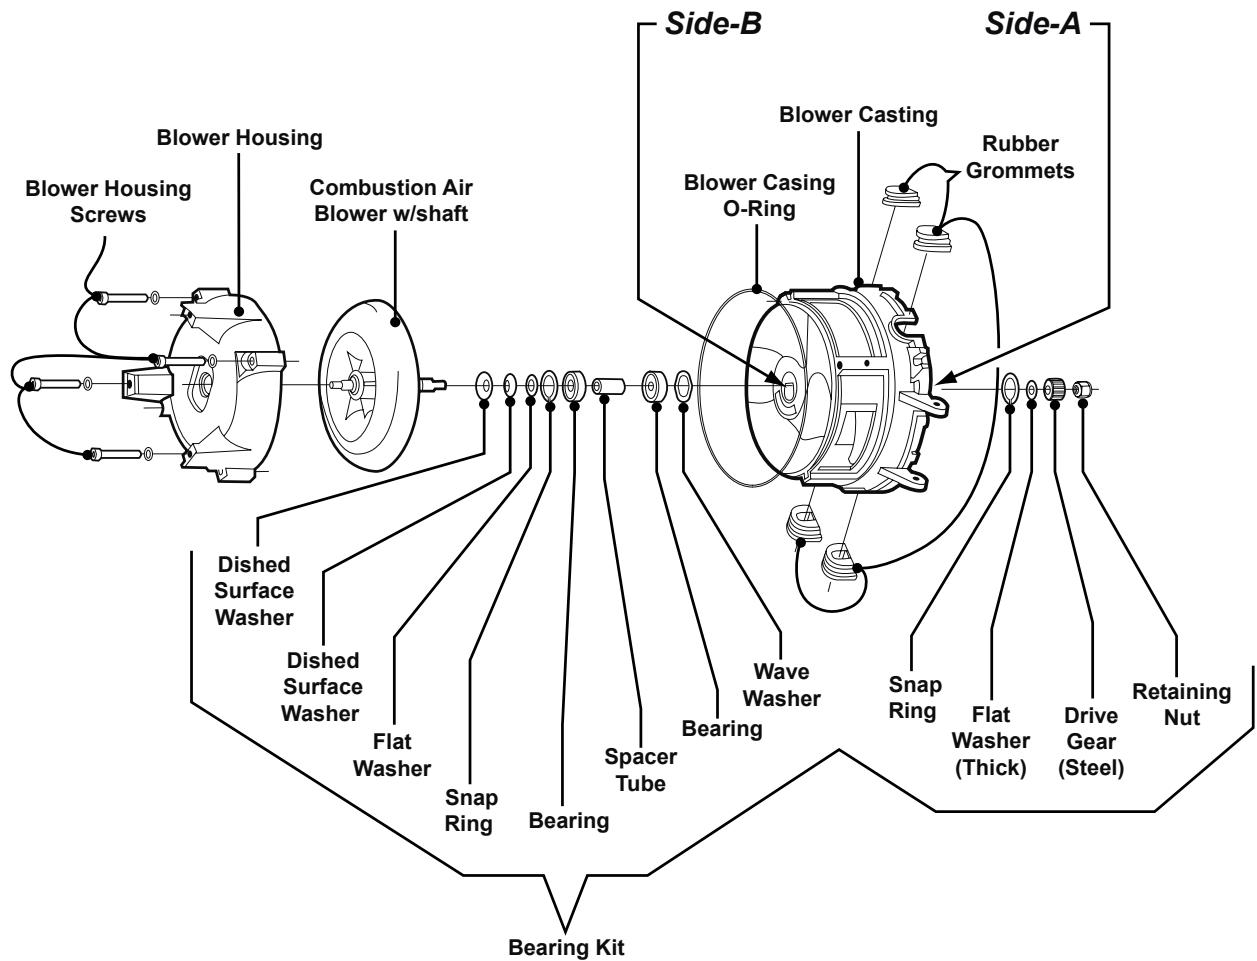

Figure 23
6. Remove the four *Blower Housing Screws*, which secure the *Blower Housing* to the *Blower Casting*; reference Figure 23. Remove the *Blower Housing* to expose the *Combustion Air Blower*, reference Figure 23.
NOTE: Be sure to observe the placement of the three *Washers* of the Bearing Kit illustrated in Figure 23. To ensure proper tension, the same order and direction of the dished surfaces of the *Washers* must be followed when reassembling.
8. With a pair of Snap-Ring pliers, remove the *Snap Rings* from both Side-A and Side-B of the *Blower Casting*; reference Figure 23. Push all the contents of the Bearing Kit out of the *Blower Casting*'s bore/bearing cavity. Discard the *Retaining Nut*, steel *Drive Gear*, *Snap Rings*, *Bearings*, *Spacer Tube*, and *Washers*, as replacements are provided in the new Bearing Kit.
9. Install a new *Snap Ring* into Side-A of the *Blower Casting*; reference Figure 23. Once the *Snap Ring* is in place, insert the remaining contents of the new Bearing Kit into Side-B of the *Blower Casting* starting with the *Wave Washer*, as illustrated in Figure 23. Secure the Bearing Kit assembly in place with the remaining *Snap Ring* (Side-B).
- A:** Prior to installation, reference Figure 23 for the exact placement of the three *Washers*, which slide over the threaded end of the Combustion Air Blower's shaft. Failure to follow the correct order and direction of the dished surfaces on the *Washers* will result in a restricted rotation of the *Combustion Air Blower*.
through the Bearing Kit assembly until the threaded portion appears on Side-A of the *Blower Casting*; reference Figure 23. Place the new thick flat *Washer* and steel *Drive Gear* on the threaded end of the Combustion Air Blower's shaft. Thread the new *Retaining Nut* on the Combustion Air Blower's shaft until it is finger tight (**DO NOT TIGHTEN**).